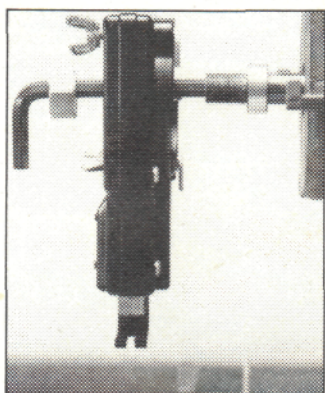

Fig. 56
- (i) First mount the special back spacer onto the spindle (Fig. 56) and then stabilise the sabre saw attachment on the shaft with the steady struts locating on the special lugs in the motor housing.